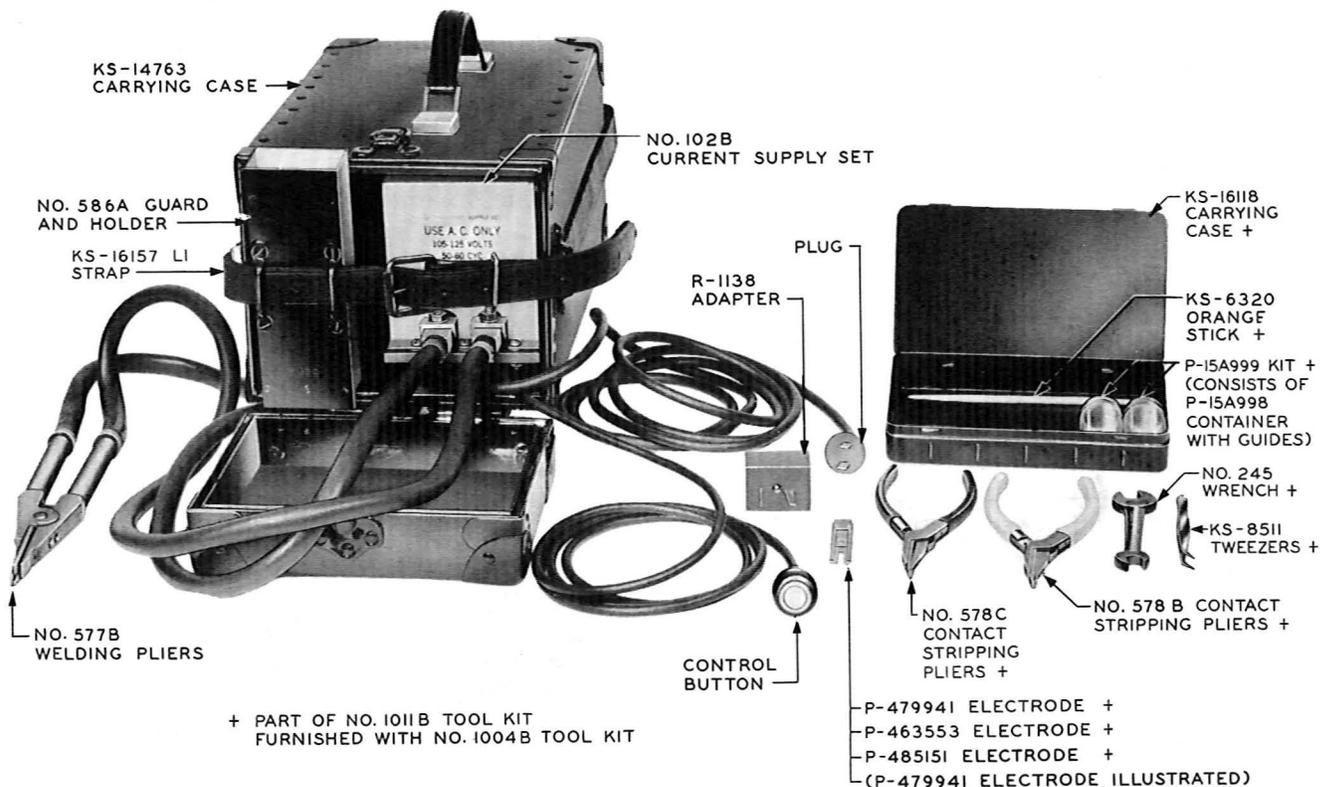

Fig. 1 - No. 1004B Tool Kit
2.01 The No. 1004A and 1004B tool kits each consist of a current-supply set, welding pliers, contact stripping pliers, and other equipment described in this section. In the No. 1004A tool kit, the leads of the No. 577A welding pliers are permanently connected to the terminals of the welding transformer in the No. 102A current-supply set. In the No. 1004B tool kit shown in Fig. 1, the welding transformer of the No. 102B current-supply set has gold-plated terminals to which are connected the gold-plated terminal lugs on the leads of the No. 577B welding pliers. This arrangement provides a reliable, low-resistance connection between the transformer and welding pliers and permits the use of different types of welding pliers having leads with gold-plated terminal lugs.